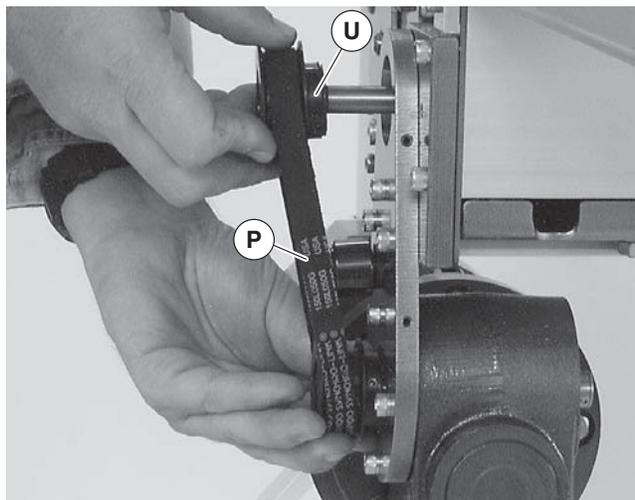

Figure 13
3. Remove timing belt (Figure 13, item P).
If timing belt does not slide over pulley flange, loosen driven pulley set screws (Figure 13, item U) and remove pulley with belt (P). For re-installation, see steps 6 and 7 on page 8.